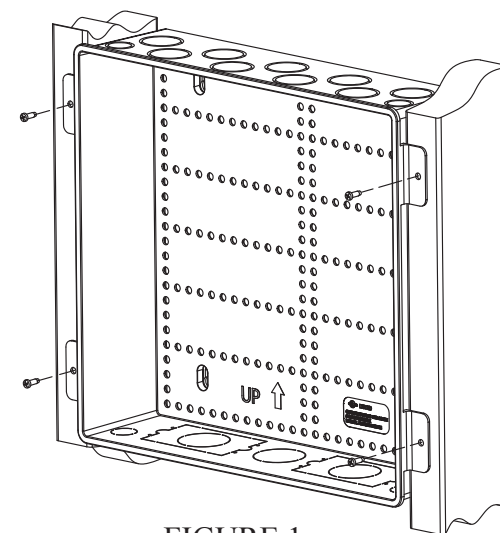

FIGURE 1
3. Secure the base housing to the studs with the included wood screws as shown in Figure 1.